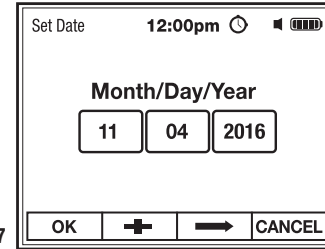

Fig. 27
2. Use the **F2** + soft key to set numeric value (highlighted in red), (Fig. 27).
3. Use the **F3** \Rightarrow soft key to select Month, Day or Year (Fig. 27).
4. Press the **F1** **OK** soft key to save setting and return to Date/Time Menu (Fig. 27).